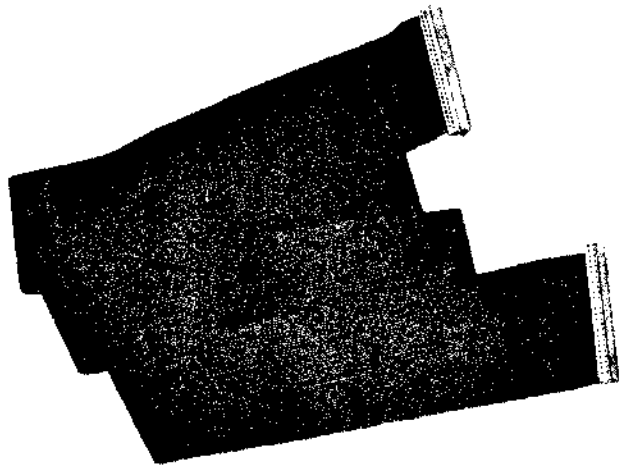

Figure 2-6 – System Disk I/O Cable – 800893
2.11 *System Disk I/O Cables* illustrated in Figures 2-6 and 2-7 interconnect the 5100/5200 Computer Unit with one or two 5010 Units.